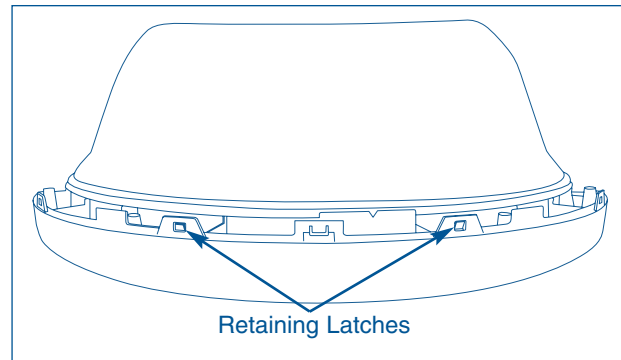

Figure 4-9.
4. Release the retaining latches around the door assembly that secure the outer door glass to the door assembly. (See Figure 4-9)